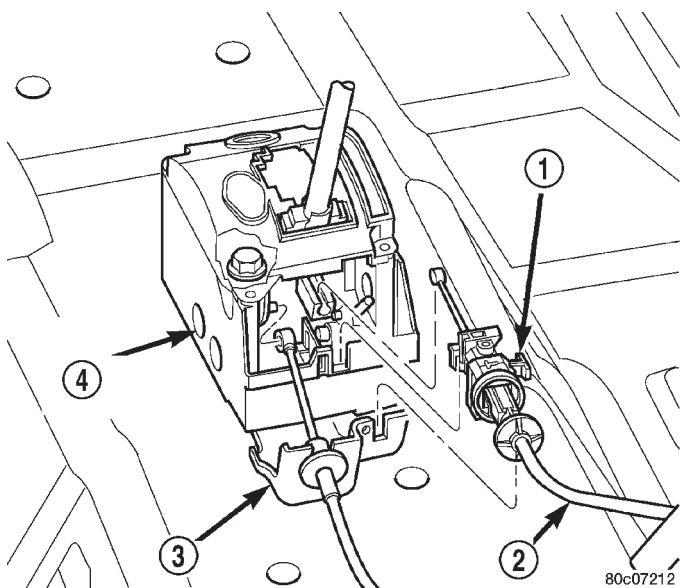

Fig. 61 Interlock Cable Removal/Installation
(5) Disconnect interlock cable from shifter base slot (Fig. 61). Be careful not to break tab on interlock cable conduit end fitting.
- (6) Slip interlock cable core wire into interlock adjustment lever groove (Fig. 61). Make sure the interlock cable slug is seated in the groove.
- (7) Slip interlock cable conduit end fitting into bracket and snap into place (Fig. 61).
- (8) If equipped with Autostick, connect the Auto-stick connector.
- (9) Adjust gear shift and interlock cables.